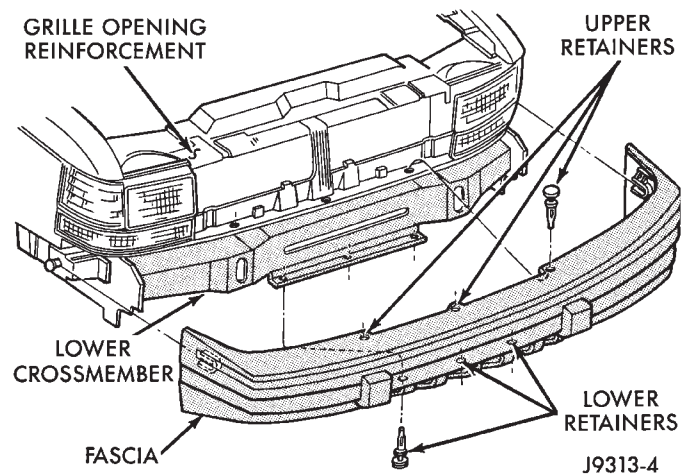

Fig. 6 Lower Fascia Removal
(14) Repeat procedure for other side of front end.
(15) Remove license plate bracket if equipped, from bumper fascia/crossmember.
(16) Remove 6 retainers at front fascia (Fig. 6).
- (19) Remove fascia from lower crossmember (Fig. 6).